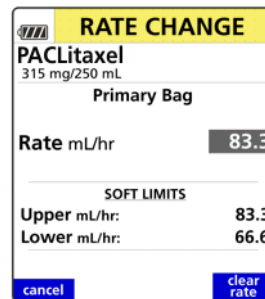

Figure 119. Rate Change Screen. See important note on page 96.
2. Observe the displayed mL/hr soft limits. See Figure 119.